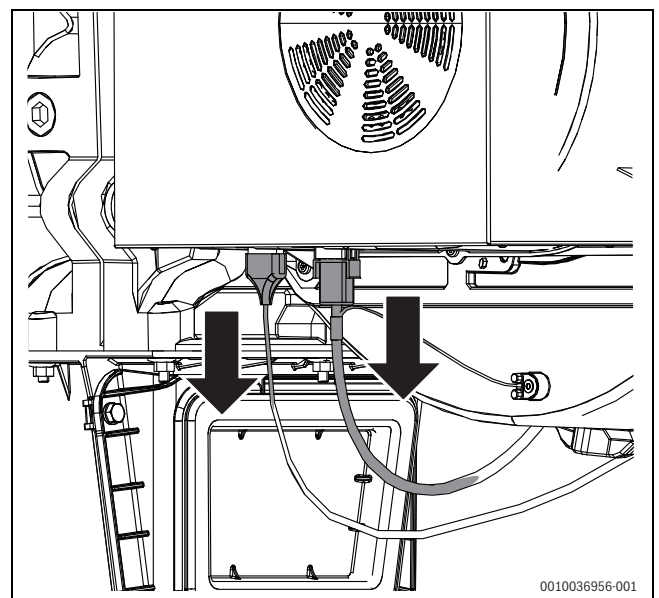

Fig. 53 Unplug the plug from the fan
- ▶ Unplug the plug on the fan (→Fig. 53).
- ▶ Unplug the plug on the fan (→Fig. 53, page 41)